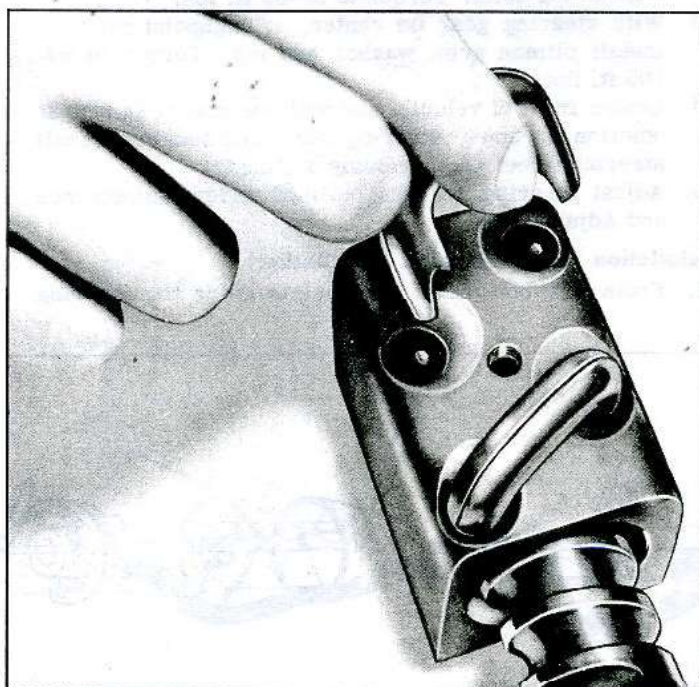

Fig. 15—Inserting Ball Guides in Nut
5. Push the guides into the guide holes of the nut (fig. 15). If the guides do not push all the way down easily, tap lightly into place.